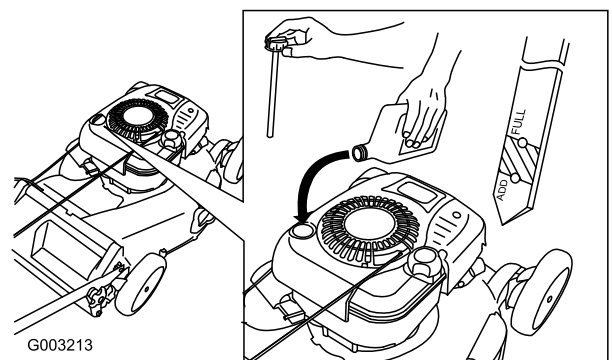

Figure 37
4. **Slowly** pour oil into the oil fill tube until the oil level reaches the **Full** line on the dipstick (Figure 37). **Do not overfill.** (Max. fill: 26 oz. (0.77 l), type: SAE 30W detergent oil with an API service classification of SF, SG, SH, SJ, SL, or higher.)